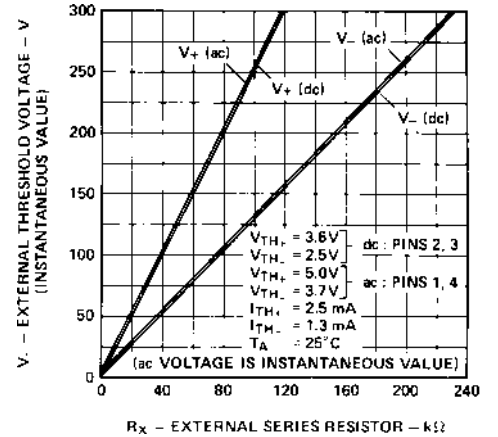

Figure 10. Typical External Threshold Characteristic, V_{\pm} vs. R_x .
The HCPL-5760, HCPL-5761, HCPL-576K or 5962-89477 optocoupler has internal temperature compensated, predictable voltage and current threshold points which allow selection of an external resistor, R_x , to determine larger external threshold voltage levels. For a desired external threshold voltage, V_{\pm} , a corresponding typical value of R_x can be obtained from Figure 10. Specific calculation of R_x can be obtained from Equation (1) of Figure 11. Specification of both V_+ and V_- voltage threshold levels simultaneously can be obtained by the use of R_x and R_p as shown in Figure 11 and determined by Equations (2) and (3).